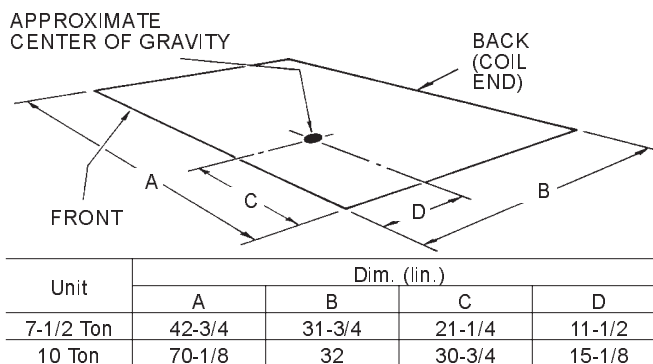

FIG. 1 - CENTER OF GRAVITY
joists. (2) Extend beyond the dimensions of the unit to distribute the load on the roof. (3) Be capable of adequately supporting the entire unit weight. Refer to Figure 1 and Table 2 for load distribution and weights.
A unit can also be supported by concrete piers. These piers should: (1) extend below the frost line, (2) be located under the unit's four corners and (3) be sized to carry the entire unit weight. Refer to Figure 1 and Table 2 for the center of gravity and unit weight.